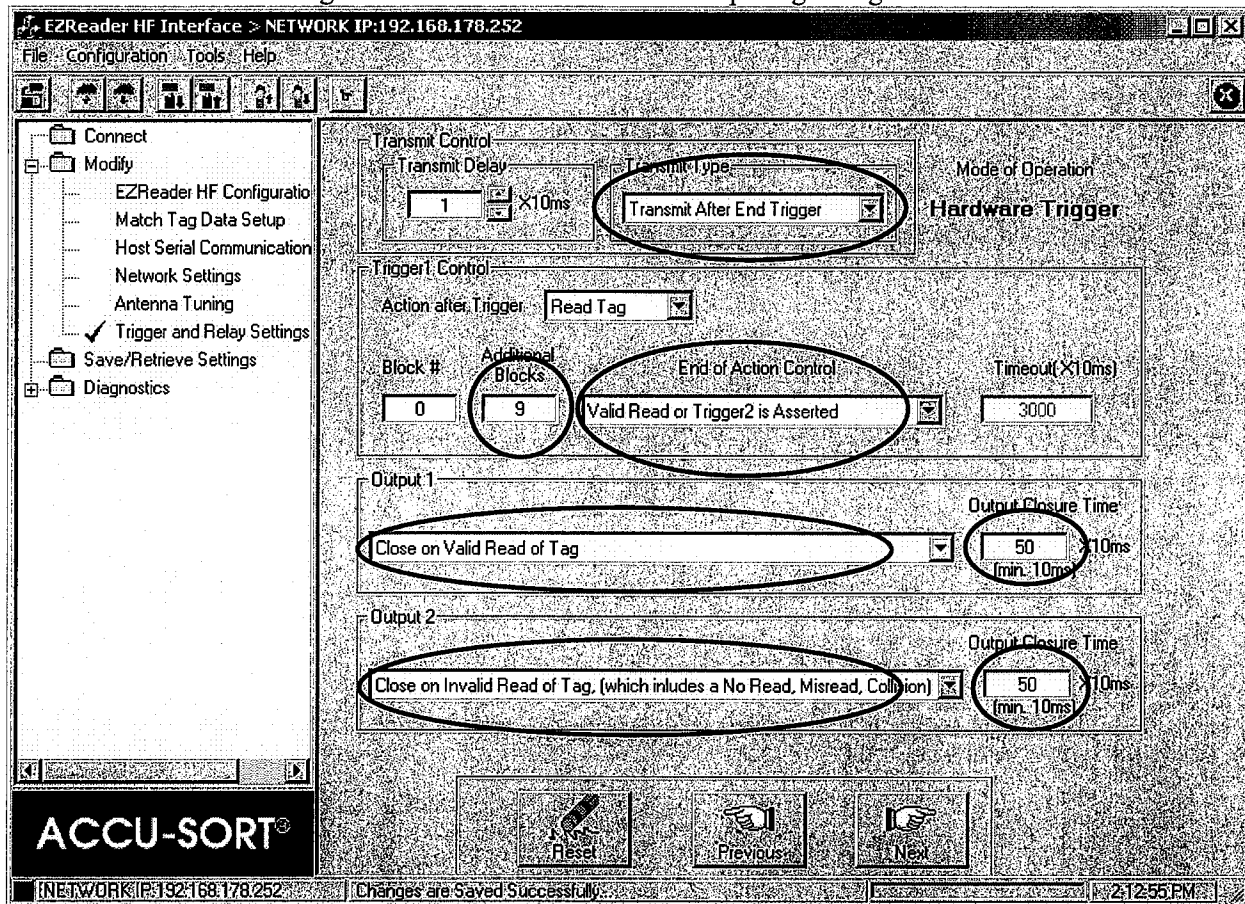

Figure 29
9.13.2 Under the GUI's Trigger and Relays Settings page make the changes shown in Figure 29 and SAVE them. Fields requiring changes are circled.